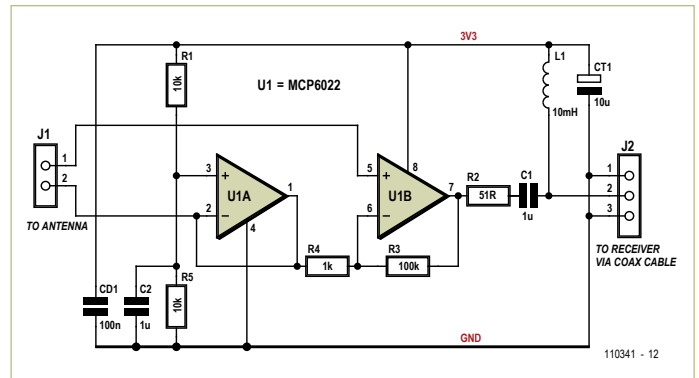
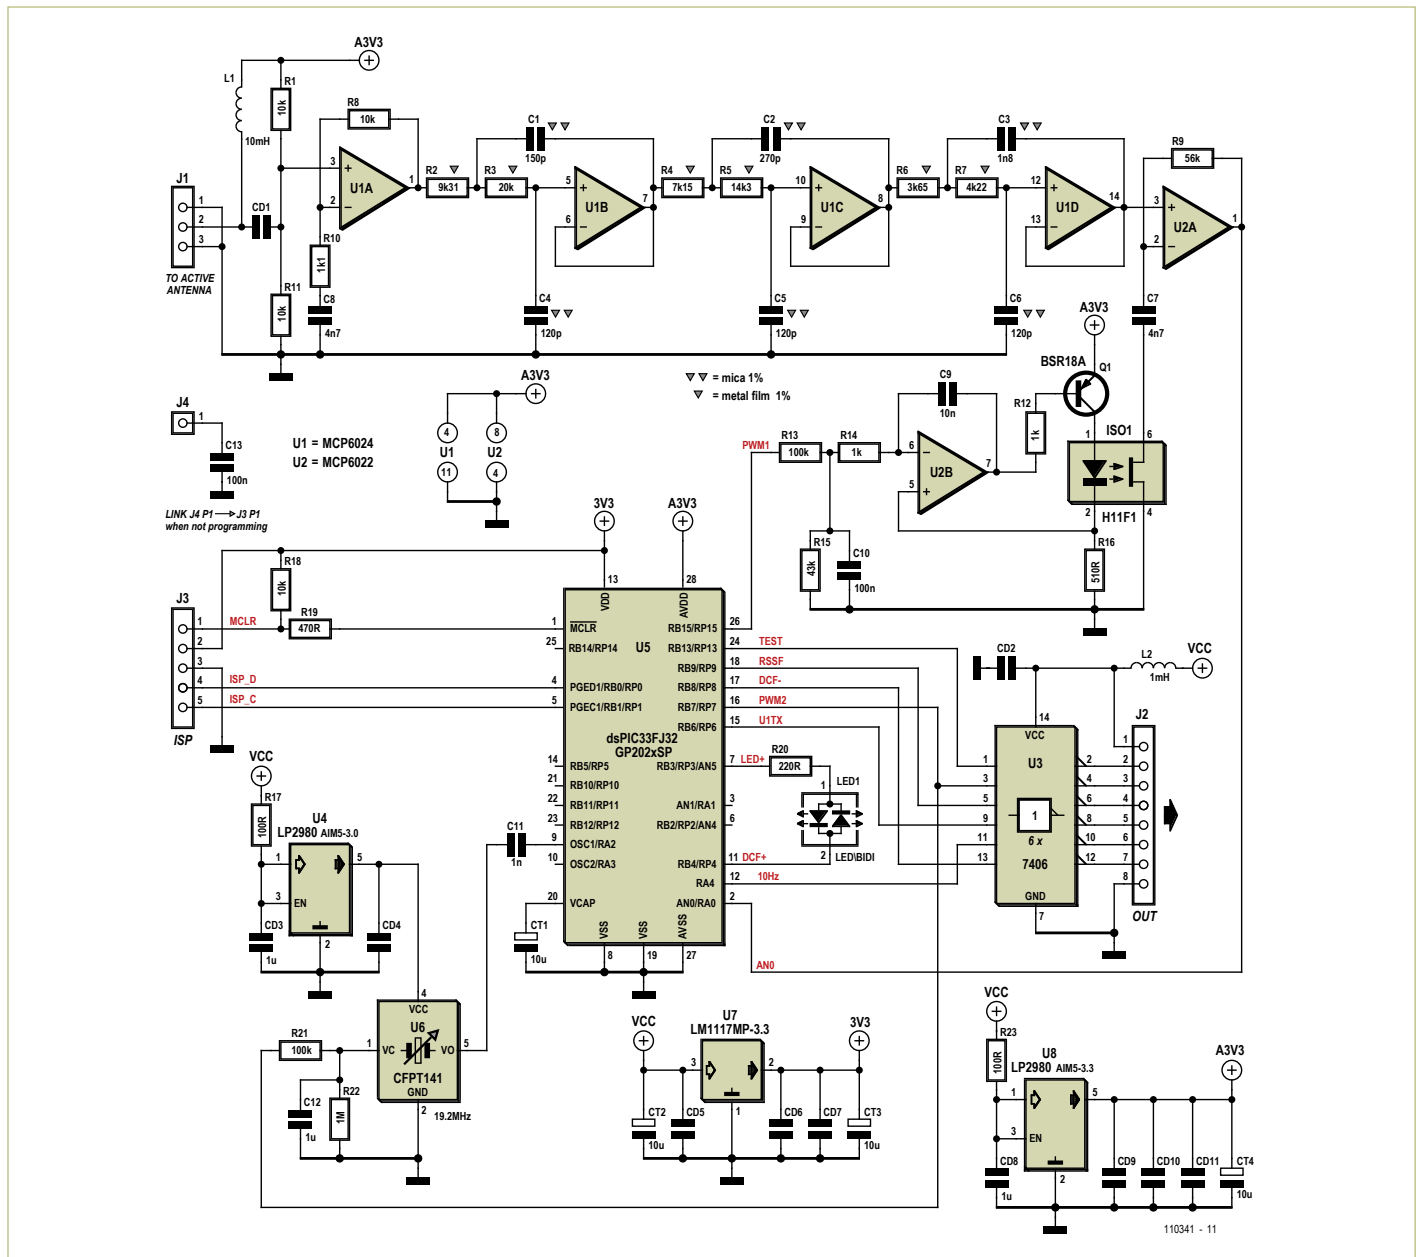

Figure 1. DCF77 antenna preamplifier circuit. The 3.3 V supply voltage arrives via the download coax cable.
Figure 2. The circuit diagram of the DCF signal processor is a mix of analogue electronics interfaced to a microcontroller.
77.5 kHz. This is combined with an op-amp gain stage shown in **Figure 1** to form the line-powered active antenna capable of driving a reasonable length of coax cable to the receiver board. Looking now at the receiver/processor schematic in **Figure 2**, the first op-amp stage provides some more AC gain which drives into three further stages comprising a 6th order low-pass anti-aliasing filter with 1 dB flat pass-band to 78 KHz and -50dB stop-band from 232.5 kHz. Note that the signal is subsequently sampled at 310 kHz ($f_s = 4f_c$) for input to a DSP notch filter at 77.5 kHz so the first poten-